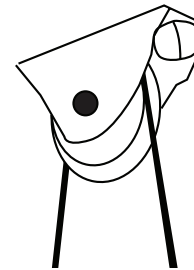

Figure 4
- ⑥ Install Draw Cable Pulleys (see Fig. 4). Place the pulleys according to specific locations provided by Draper. Pulley mounting screws are to be supplied by the installer, and must be suitable for the mounting surface to hold the weight of the fabric panel. The screws must be #4 Pan Head to insure that the draw cable does not contact the screw heads during operation, resulting in failure of the cable.